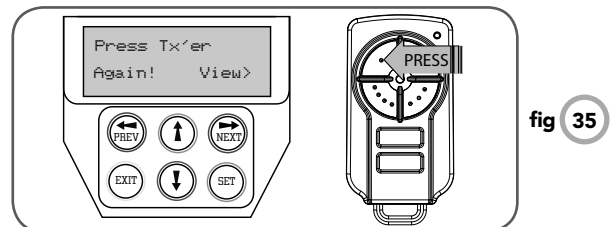

fig 35
3. Press same transmitter button again as prompted by display (**Fig. 35**).